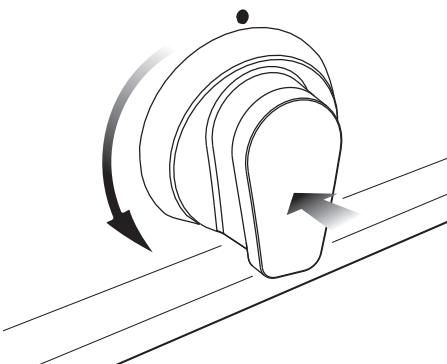

Fig. 2.2
1. Push and turn the knob in an anti-clockwise direction up to the **Hi*** position (maximum rate), push in and hold the knob until the flame has been lit (fig. 2.2).
2. Push and turn the knob in an anti-clockwise direction up to the **Hi*** position (maximum rate), push in and hold the knob until the flame has been lit (fig. 2.2).